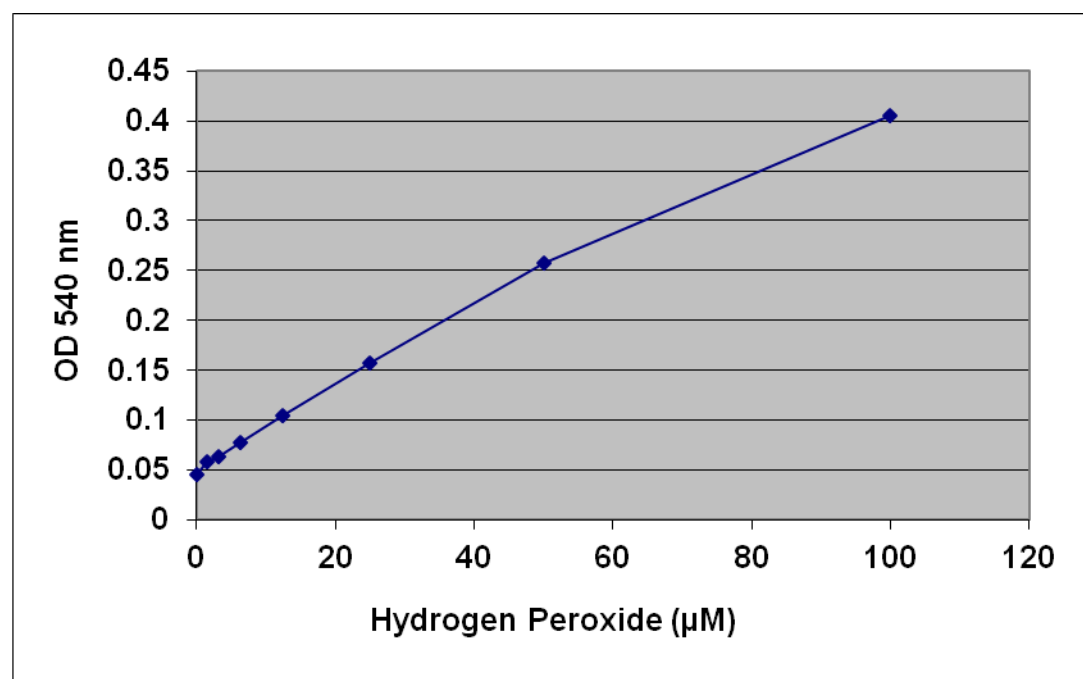

Figure 1. H_2O_2 Standard Curve.
2. Plot the corrected absorbance for the H₂O₂ standards against the final concentration of the hydrogen peroxide standards from Table 2 to determine the best slope (µM⁻¹). See Figure 1 for an example standard curve.